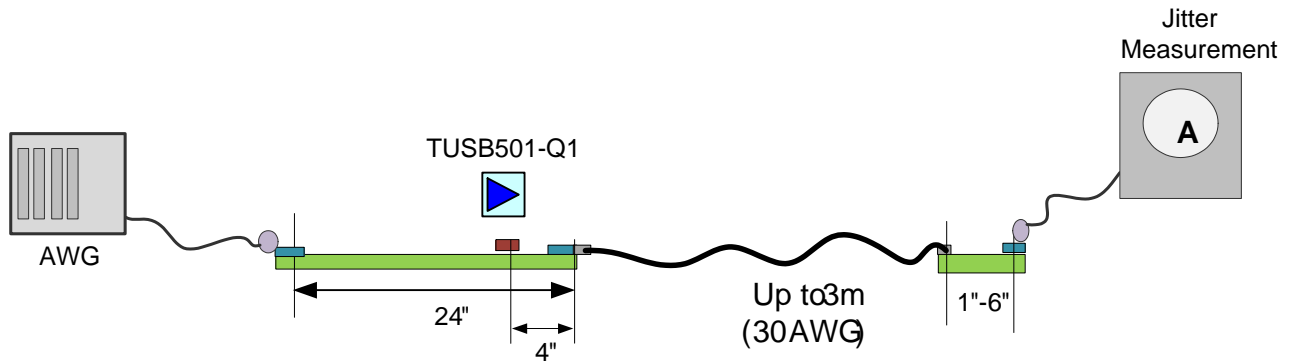

Figure 3. Jitter Measurement Setup
(1) Includes R_J at 10⁻¹².
(2) Measured at the ends of reference channel in Figure 3 with K28.5 pattern, V_{ID} = 1000 mV_{pp}, 5 Gbps, -3.5 dB de-emphasis from source.
(3) UI = 200 ps.
(4) R_J calculated as 14.069 times the RMS random jitter for 10⁻¹² BER.